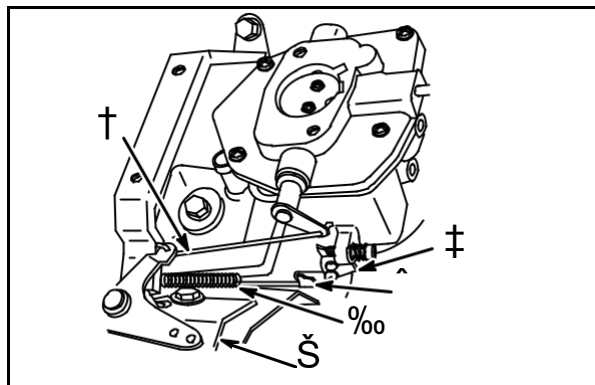

Fig. 31
Connect governor link (9) to throttle lever (7) and snap retainer (8) over link, **Fig. 31**.